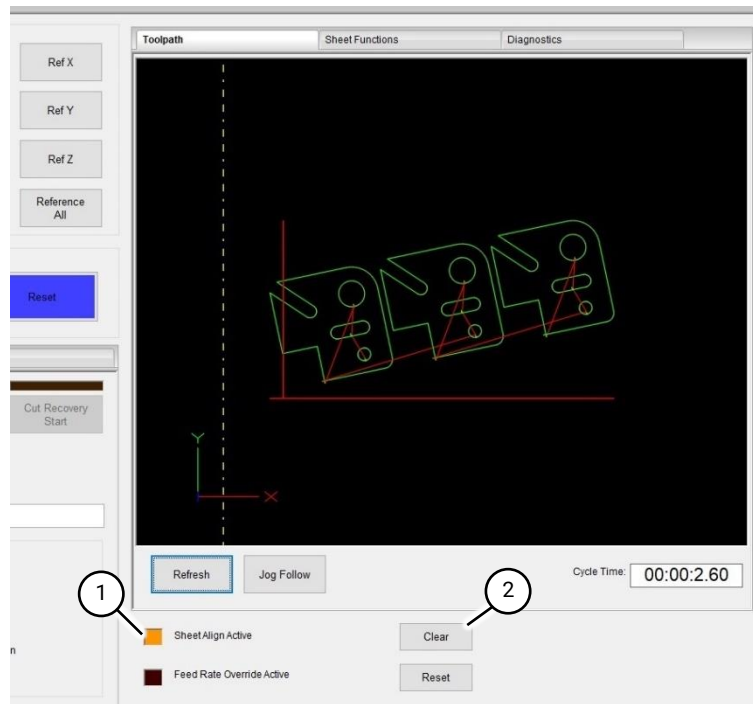

Fig 88 Sheet alignment active
2.7 The Sheet Align Active indicator (Fig 88 (1)) flashes orange to show that sheet alignment is active.
2.8 Pressing the Clear button (Fig 88 (2)) de-activates sheet alignment. Sheet alignment will remain active until cleared.